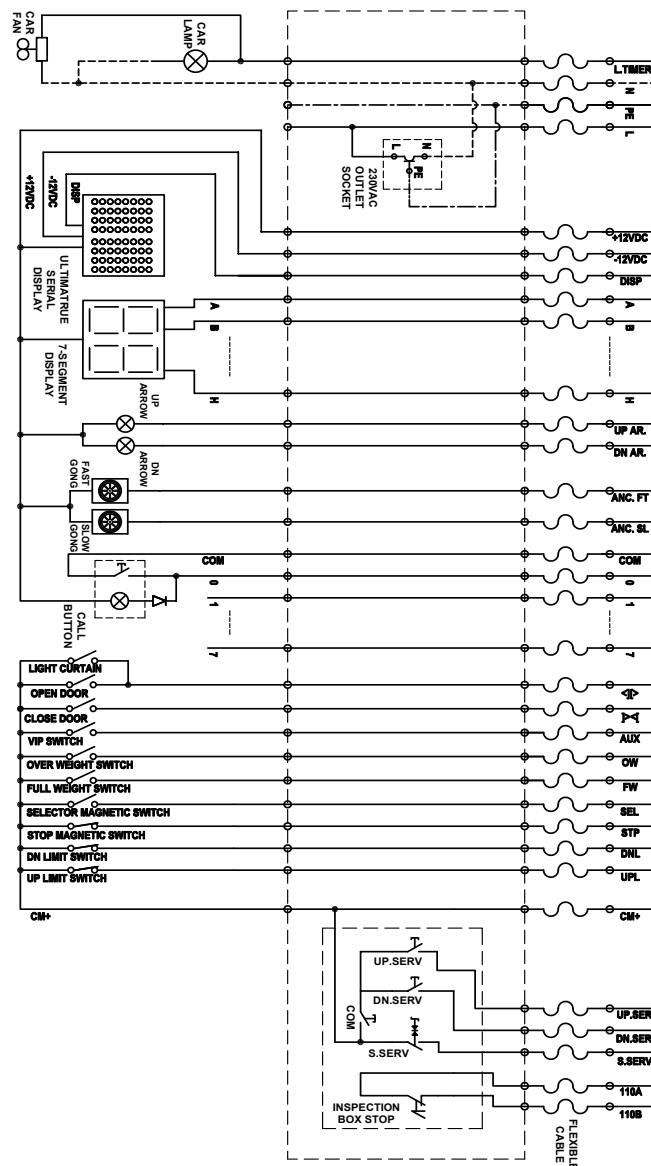

Figure 28.0 - Car Connections
The terminals of the Car are connected as illustrated in Figure 28.0.
- Figure 28.0 illustrates the connection of the traveling cable terminals between the main control panel and the car for calls, indicators, inspection box, etc.